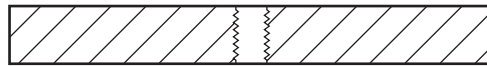

**Fig. 3**
- 7 Fig.3 shows a plain drilled hole through a section of material.